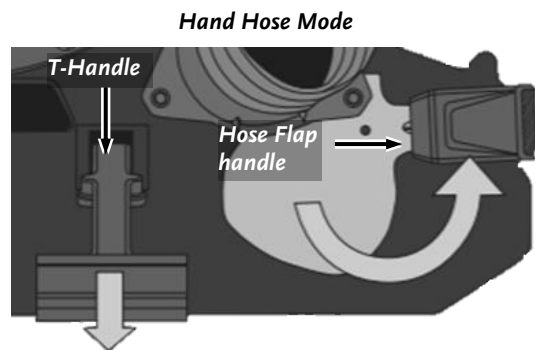

Figure 16
1. Position the T-Handle in the DOWN position to BLOCK vacuum Flow through the main Snout (**Figure 16**).
2. Position the Hose Flap Handle to the SIDE Position to direct flow through the Hand Hose (**Figure 16**).